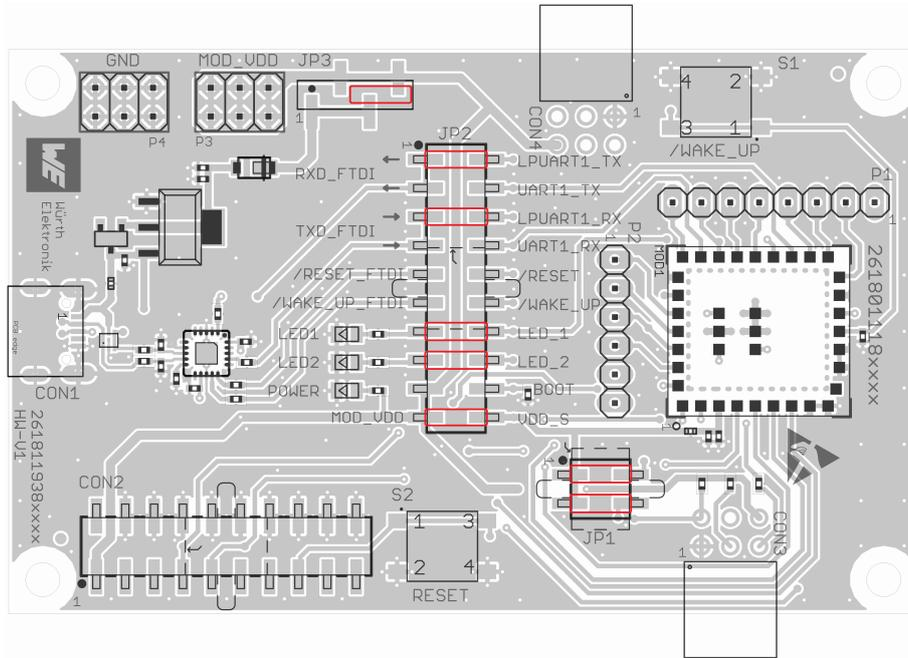

Figure 4: Jumpers, default
- Step 2: Place the jumpers on default location, as shown in figure 4.